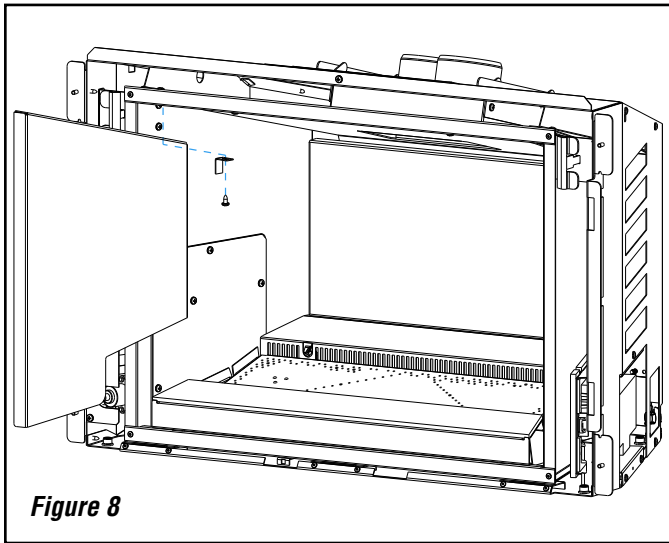

Figure 8
3. One at a time, install the side liner panels by sliding them into place (**Figure 8**).
4. Steel and Porcelain panels: using the short 'L' brackets, secure the liner panels by fastening the bracket to the top edge of the Firebox with a #8 x 3/8" Phillips screw provided with this manual (**Figure 8**).